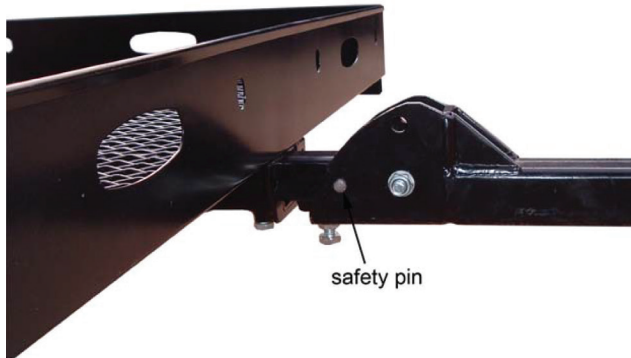

Figure 4-5
- When in use: Use the safety pin to adjust the hitch. *See Figure 4-5.*